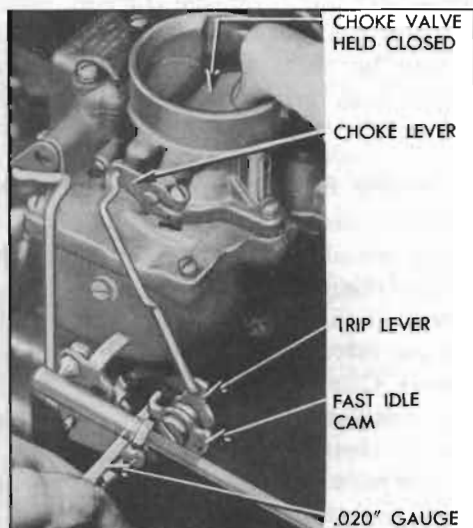

Figure 3-26—Checking Carter Fast Idle Cam Clearance
2. Hold choke valve in closed position and see that the cam trip lever is in contact with the fast idle cam, then check the clearance between the arm of fast idle cam and the boss on body flange, using a .020" feeler gauge (T109-29). See figure 3-26.